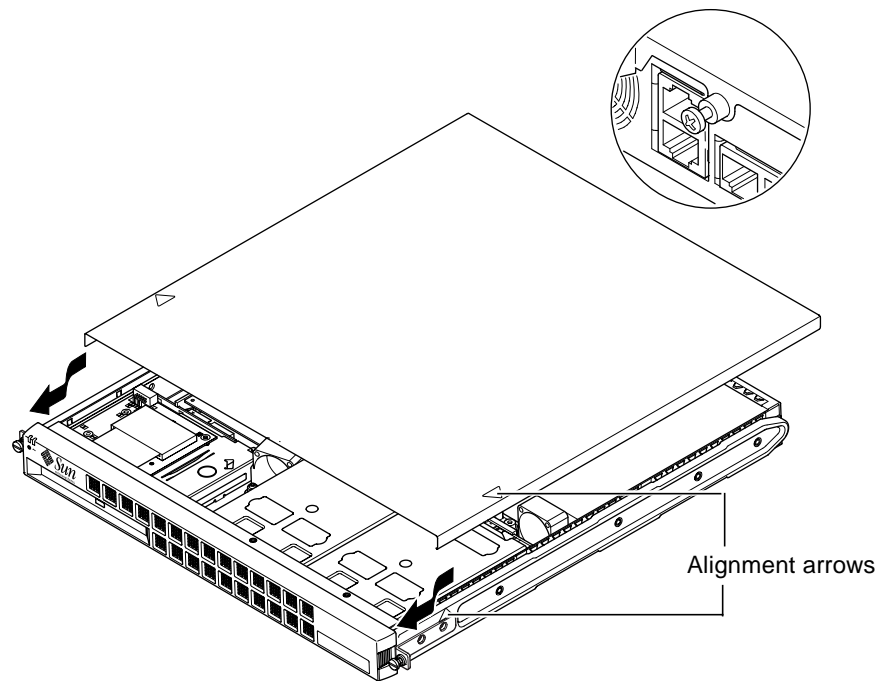

FIGURE 4-9 Replacing the Top Cover
6. Replace the server's cover and tighten the captive screw (see FIGURE 4-9 in Section 4.7, "Replacing the Server's Top Cover" on page 4-15).
4. **Replace the server cover and tighten the captive screw (see FIGURE 4-9 in Section 4.7, “Replacing the Server’s Top Cover” on page 4-15).**
3. Replace the server's cover and tighten the captive screw (see FIGURE 4-9 in Section 4.7, "Replacing the Server's Top Cover" on page 4-15).
8. Replace the server's cover and tighten the captive screw (see FIGURE 4-9 in Section 4.7, "Replacing the Server's Top Cover" on page 4-15).
7. **Replace the server cover and tighten the captive screw (see FIGURE 4-9 in Section 4.7, “Replacing the Server’s Top Cover” on page 4-15).**
- When you have finished installing an option module, replace the top cover, making sure the alignment arrows on the lid and chassis line up. Then tighten the captive retaining screw at the rear (see FIGURE 4-9).